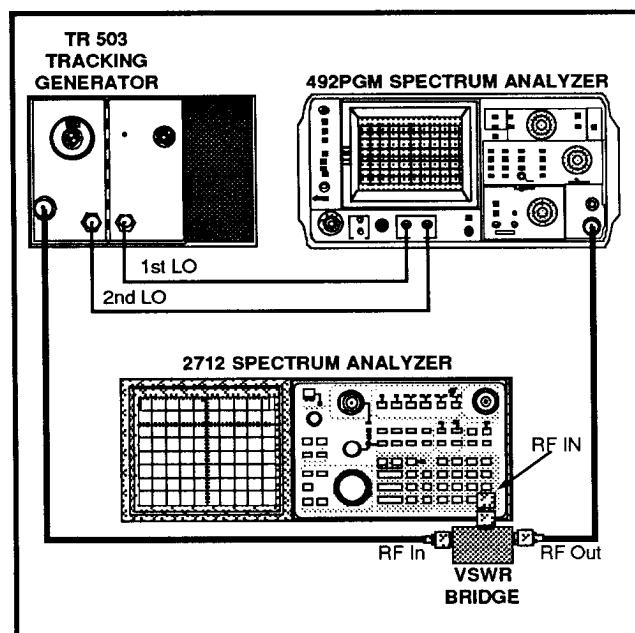

Figure 3-5. Test equipment setup for checking return loss.
b. Connect the test equipment as shown in Figure 3-5.